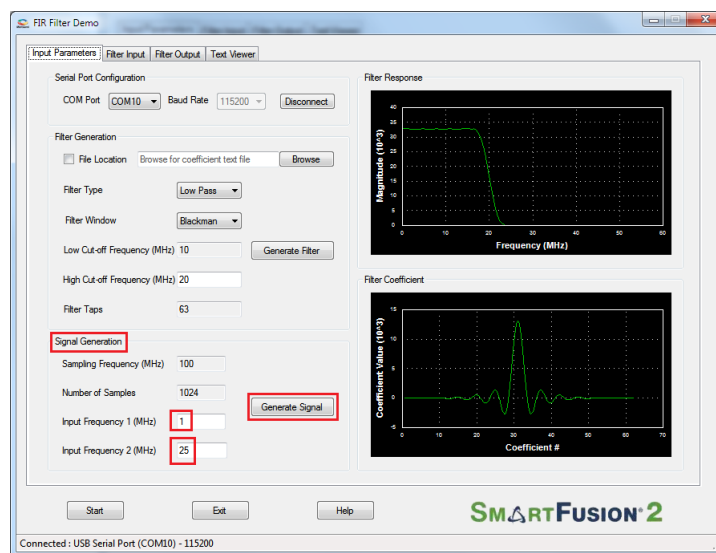

Figure 1-11 • Signal Generation
- Click **Generate Signal** as shown in Figure 1-11.